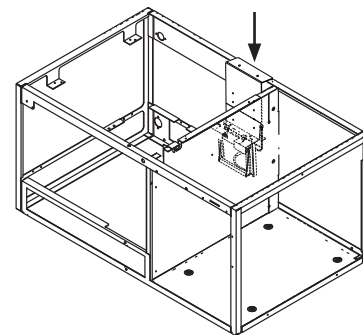

Fig. 5b
- 14) Secure the bin control bracket to previous assembly holes. Place the bin control assembly to the bracket at desired height, use thumbscrews to secure in place. See Fig. 5b.